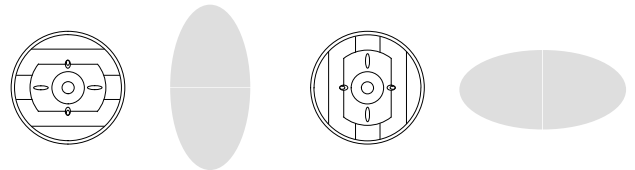

Fig. 3
2. Install a spray tip in the gun. Rotate the air cap (the spray tip rotates with it) to determine the direction of the spray pattern. See Fig. 3.